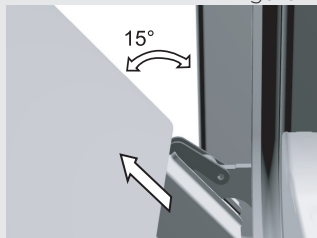

figure 3
- Slowly close the door until the clips are pressed against the supports / seats. At approximately 15° (relative to the closed door position), pull the door slightly upward and pull them out of the both hinge supports on the appliances (Figure 3).